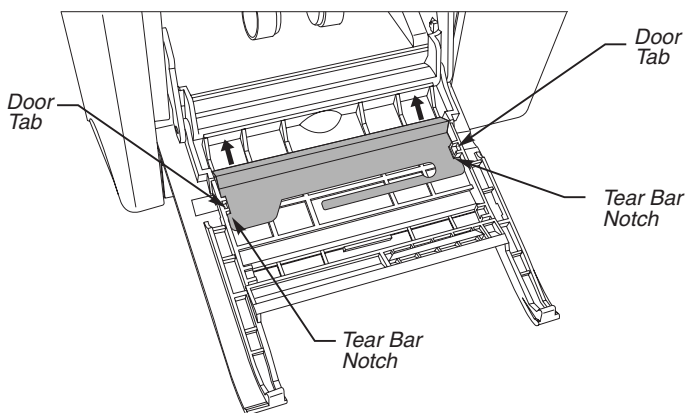

FIGURE 9
**NOTE.** - When not in use, the tear bar may be stored on the inside of the media access door. Refer to Figure 9. With the lip of the bar facing the inside of the door, simply align the notches of the bar with the tabs on the door. Press and slide the bar toward the door's hinged end.